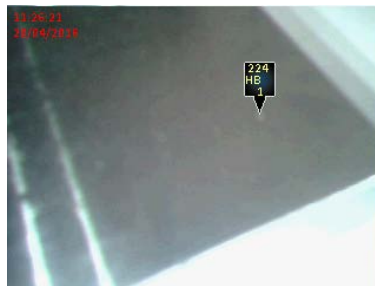

Figure 2.50 - Marking of the measuring point
6. After saving the photo using the navigation keys <  >, <  >, <  >, <  > mark the measurement location on the photo (Figure 2.50). Scale and the value of hardness, as well as the date and time of measurement (creating a snapshot) are indicated automatically. To finish the photo fixation and save the measurement in the archive, press <  >.